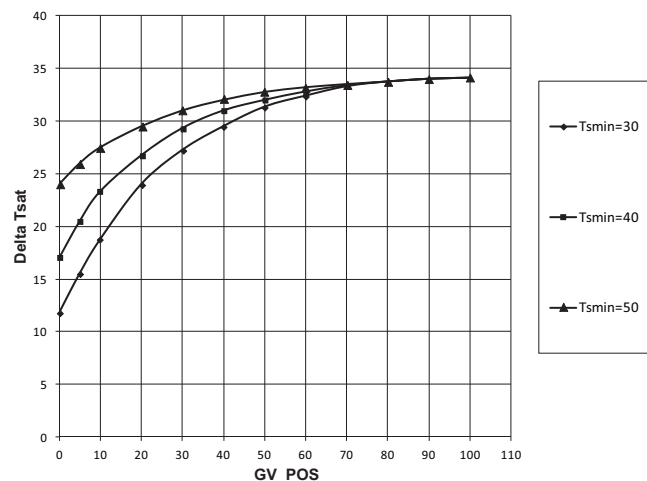

Fig. 37 — Effect of SURGE/HGBP DELTA TSMIN on Surge Prevention
- Surge/HGBP Delta T_{min} is the minimum difference between cooler and condenser saturation temperatures. (See Fig. 37.)